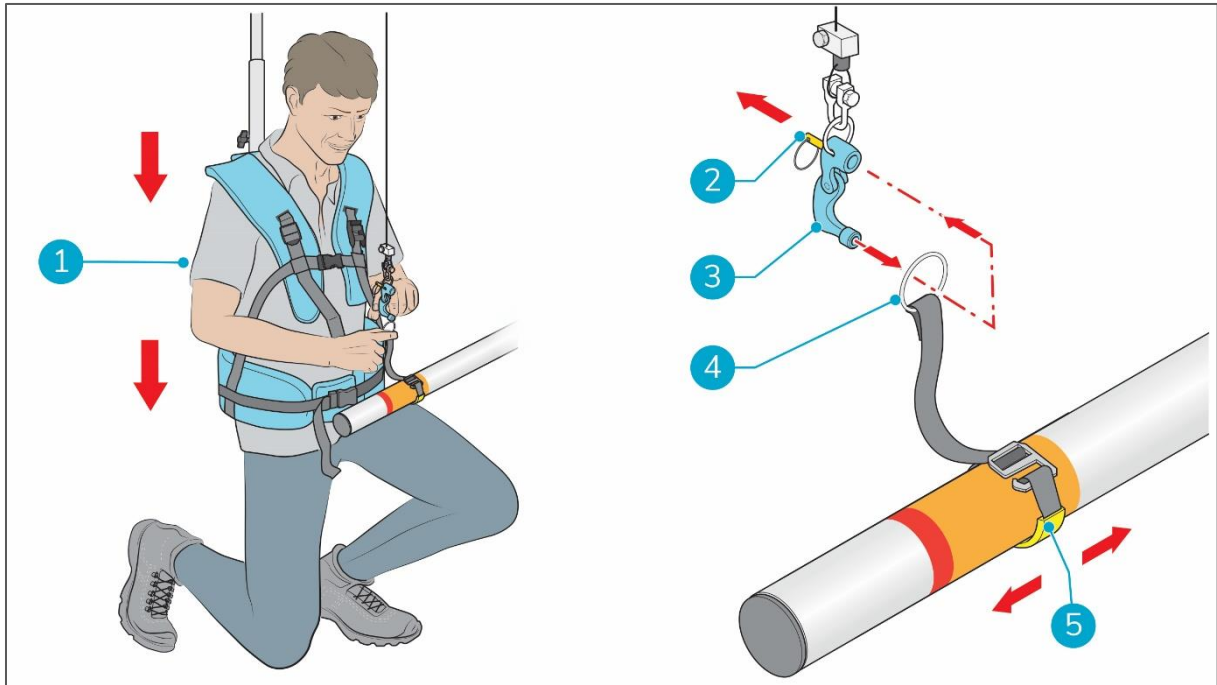

Figure 12
6. Kneel down in front of your telescopic pole while keeping your back straight (Figure 12, pos. 1).
- pull the pin (Figure 12, pos. 2) to open the hook (Figure 12, pos. 3),
- put the hook through the support strap ring (Figure 12, pos. 4),
8. Slide the strap to the desired position (Figure 12, pos. 5).